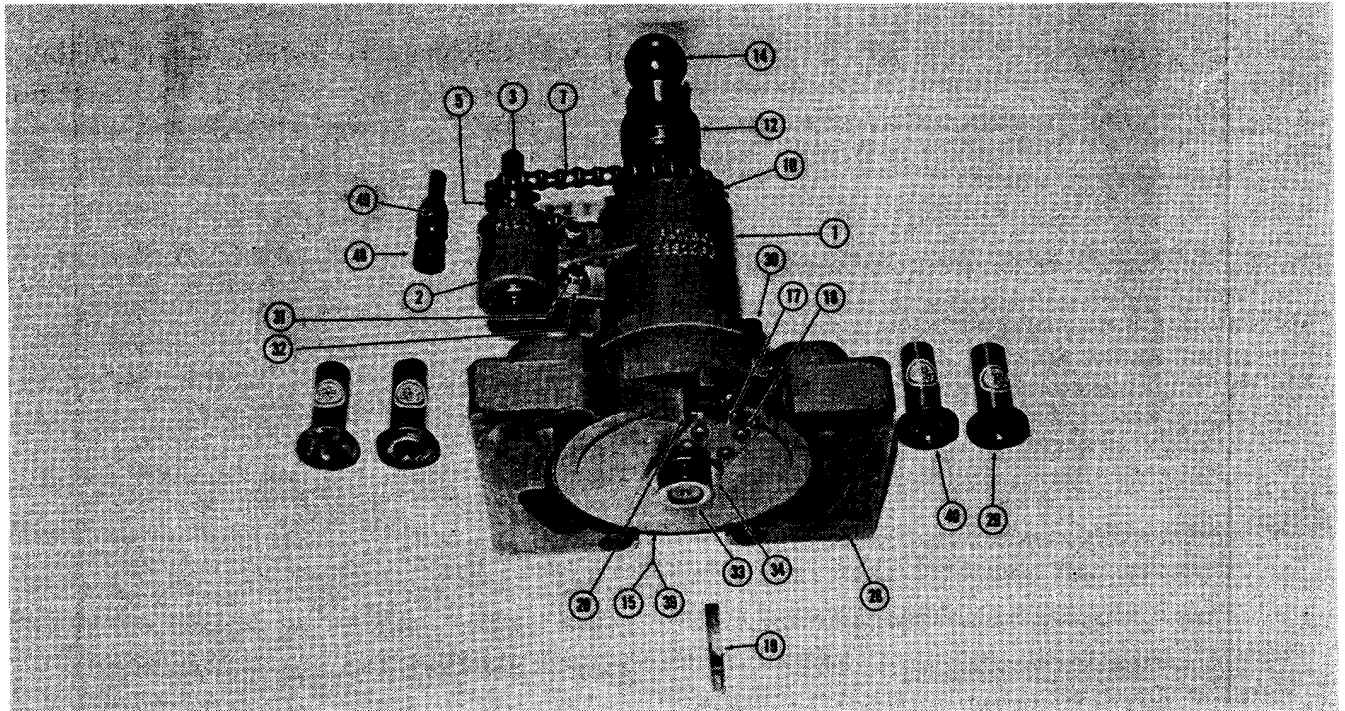

Fig. 1-19, (V40172). ST-1168 Boring Tool
1. Assemble and secure adapter plate (ST-1168-28), (Fig. 1-19) to main body.